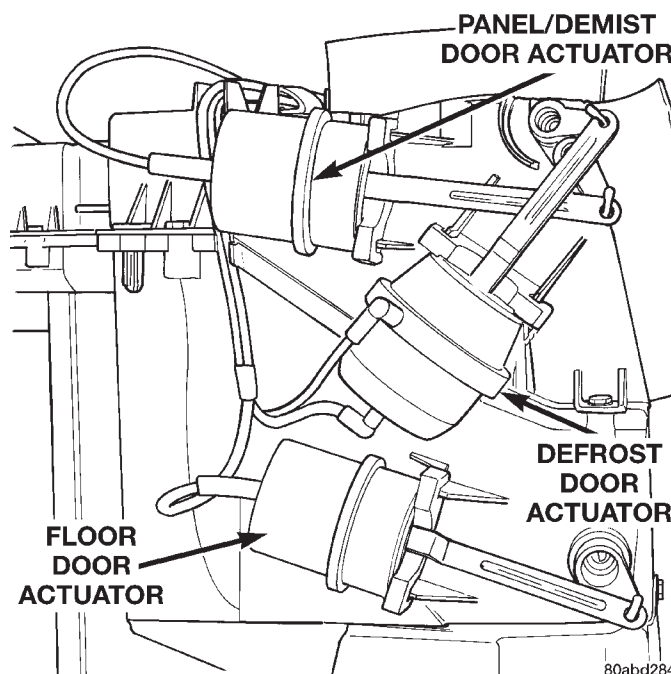

Fig. 45 Defrost, Floor, and Panel/Demist Door Vacuum Actuators
- (1) Disconnect and isolate the battery negative cable.
- (2) Remove the knee blocker from the instrument panel. Refer to Knee Blocker in Group 8E - Instrument Panel Systems for the procedures.
- (3) Unplug the two vacuum harness connectors from the defrost door actuator (Fig. 45).
- (3) Unplug the vacuum harness connector from the floor door actuator (Fig. 45).
(1) Remove the defrost door actuator from the heater-A/C housing. See Defrost Door Actuator in this group for the procedures.
(2) Unplug the vacuum harness connector from the panel/demist door actuator (Fig. 45).